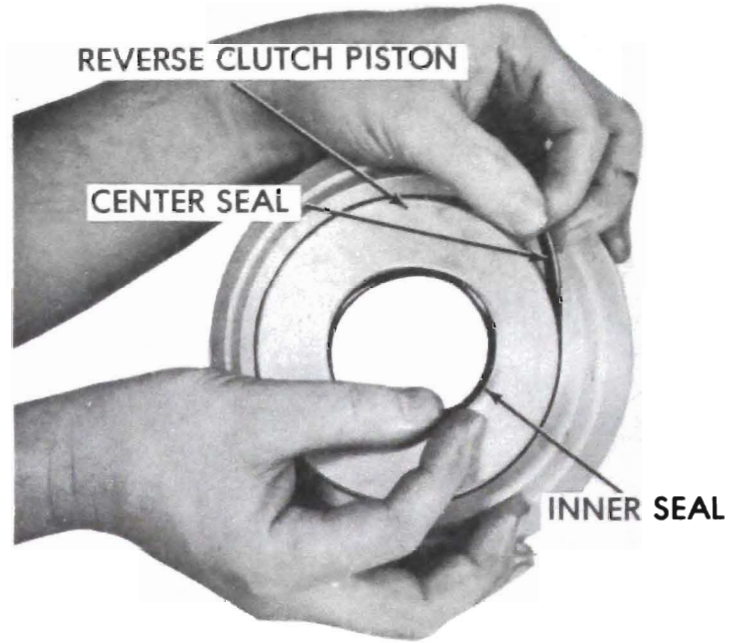

Figure 75-121
2. Remove low and reverse clutch piston center and inner seal. See Figure 75-121.